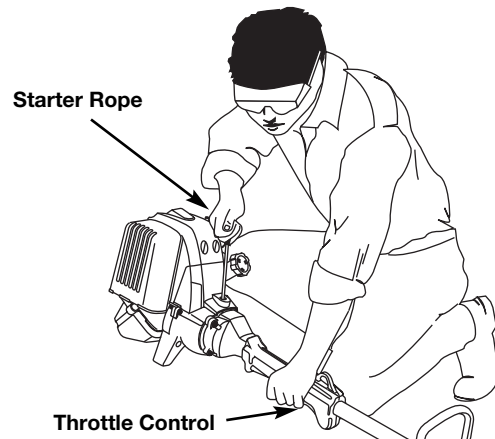

Fig. 13
**WARNING:** Avoid accidental starting. Make sure you are in the starting position when pulling the starter rope (Fig. 13). To avoid serious injury, the operator and unit must be in a stable position while starting.
6. Crouch in the starting position (Fig. 13), squeeze the throttle control, and pull the starter rope briskly 5 times.